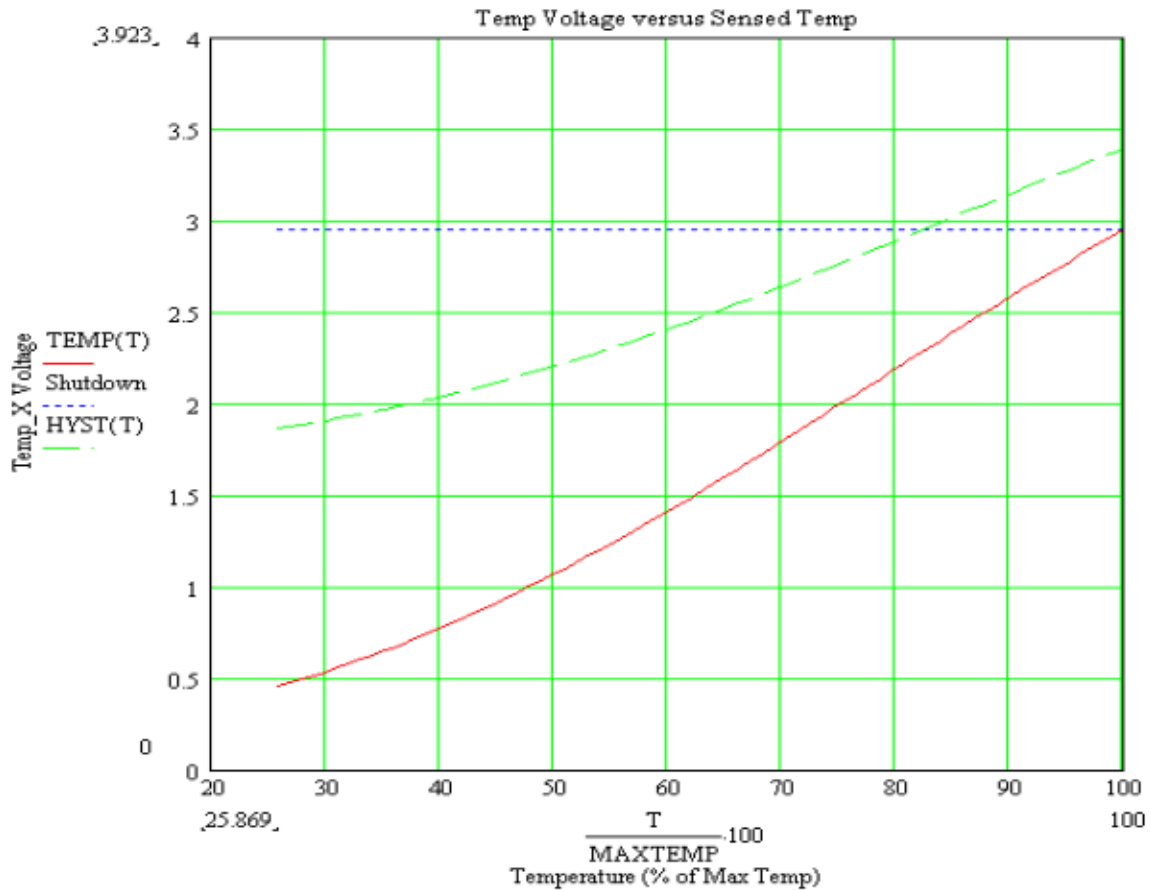

Figure 2: TEMP monitor pin voltage versus temperature
versus percent of the maximum operating temperature is shown in Figure 2 with the TEMP(T) curve. If the power supply reaches the shutdown limit of 2.9v (i.e. the dashed blue line), The +48v, and +/-12v outputs will turn off and remain off until the TEMP MONITOR pin drops near 80% of the maximum operating condition. During the time the power supply is in thermal protection, the temperature versus voltage follows the HYST(T).